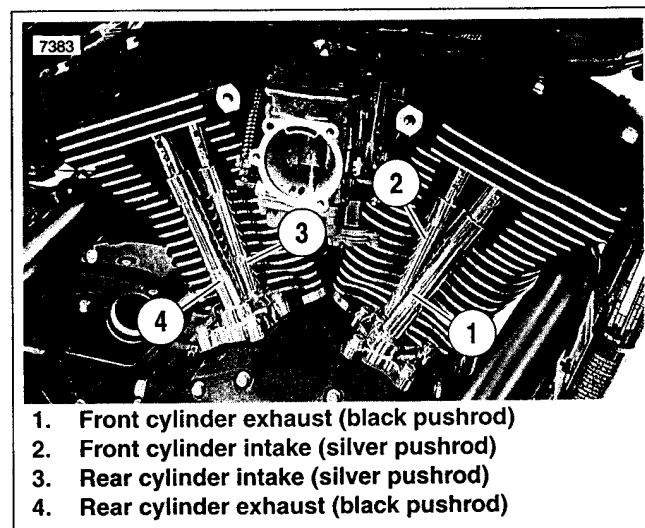

Figure 3-45. Lifter Bore Covers
- a. See Figure 3-45. For example, if reassembling the rear cylinder, slide the intake pushrod (silver) through the front hole in the rocker housing engaging the lifter socket in the inside hole of the lifter cover.